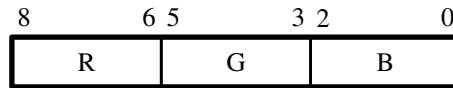

Figure 12. 9-bit RGB Color Space.
- 9-bit RGB — This format uses 3 bits for each color as shown in Figure 12. This mode is defined as 3 bits per color and three color planes.